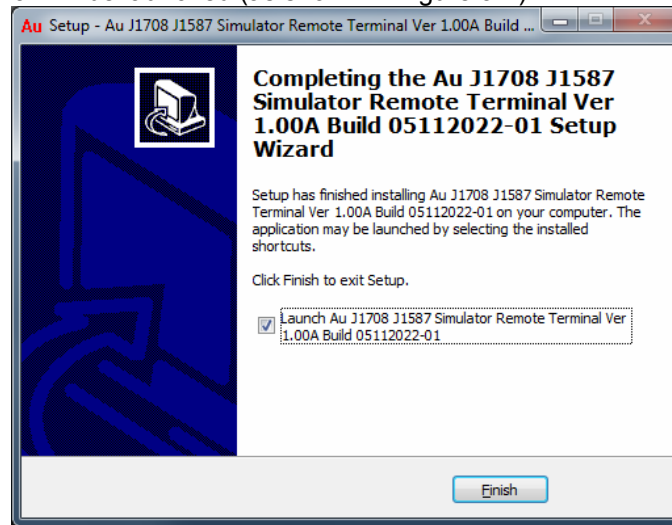

Figure 6-7
7. Check "Launch Au J1708 Simulator Remote Terminal Version 1.00A". Click "Finish" (Figure 6-7), Au J1708 Simulator Remote Terminal will be launched (as shown in Figure 3-1).